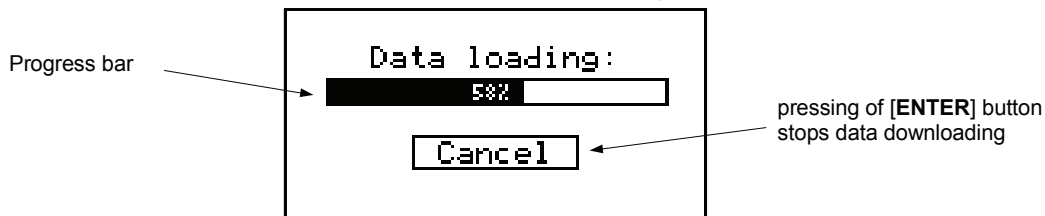
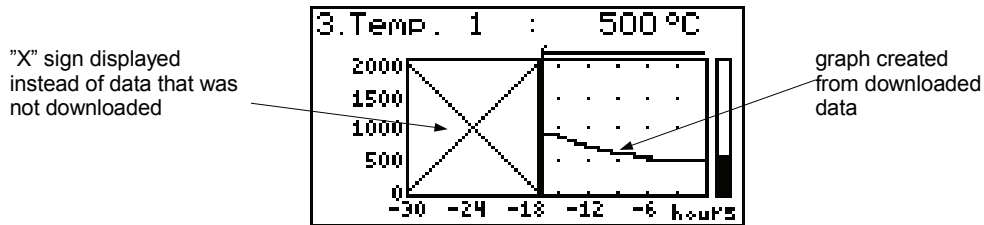

Fig. 6.19. Message displayed when loading data to be displayed on the graph
Fig. 6.20. Display in "Graph" mode in the case where data download was stopped.
- i** If downloading the data (recorded measurement results) necessary for displaying the graph takes more than 1 second an appropriate message is displayed (Fig. 6.19). Pressing **[ENTER]** will stop the data downloading process and display a graph made on the basis of the data downloaded so far. "X" will be displayed instead of data that was not downloaded (Fig. 6.20).